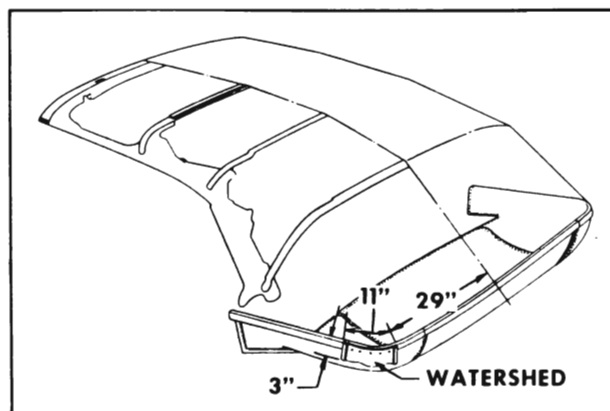

Figure 7-33—Back Curtain Stay Pad Watershed
9. Check back curtain stay pad watershed for proper installation to rear trim stick (see Figure 7-33). A new watershed may be made from a vinyl coated material as shown in Figure 7-33. Place vinyl coated side of material against trim stick, 29 inches from center of trim stick; then tack material in position. Bottom portion of watershed is wrapped upward and around lower edge of back curtain integral stay pad after pad has been installed, and securely tacked to trim stick. The watershed is designed to protect lower edge of stay pad from wicking water.